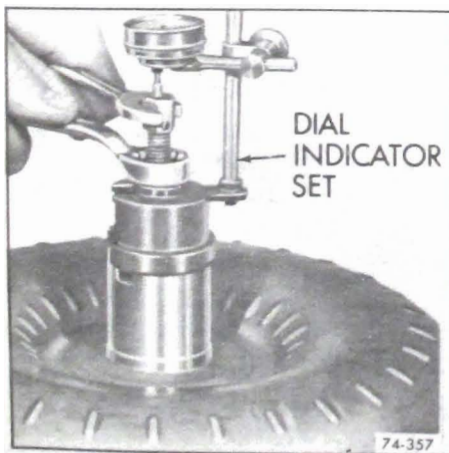

Figure 75-310
4. Loosen hex nut. See Figure 75-310. When nut is fully loosened the reading obtained on the dial indicator will be converter end clearance. If clearance is .050" or over and the oil has the appearance of having been mixed with aluminum paint, replace the converter.